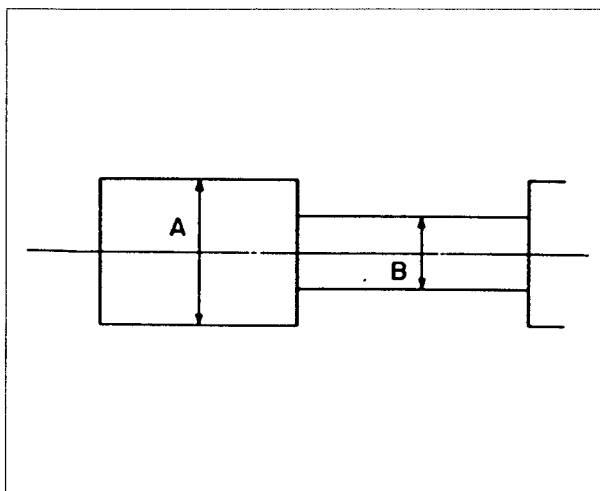

Fig. 4-72 Envelope Output and Output Level Difference
2. Play back a self recorded tape (a recording made on the unit using a T-120). The video envelope should meet the specification shown in Fig. 4-72. In SLP Mode, (A) should be the same as (B). If the head gap is wide, check the Upper Cylinder.